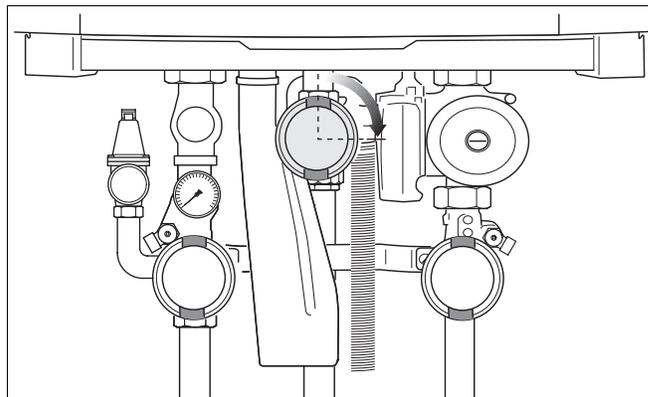

Fig. 56 Closing the gas valve
- Close the gas valve in a clockwise direction (fig. 56).
- Close the gas valve (fig. 56).